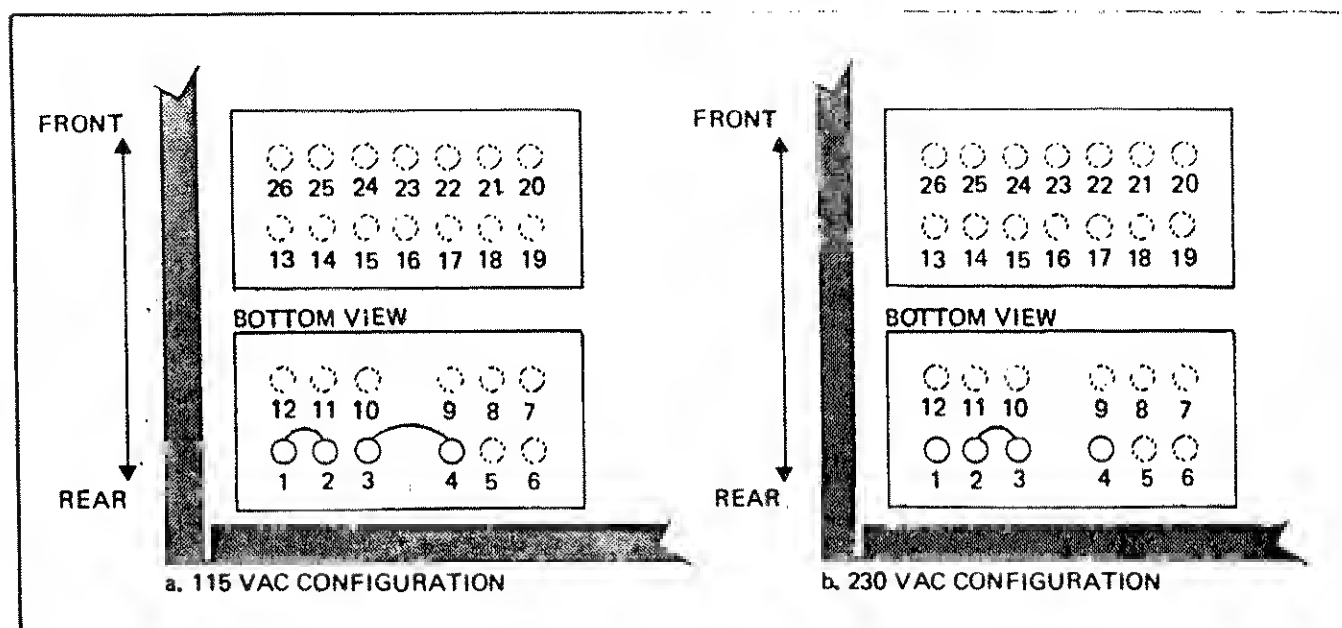

Figure 4-4 115/230 VAC CONVERSION
- Orient the instrument and perform the appropriate electrical connections as illustrated in Figure 4-4.